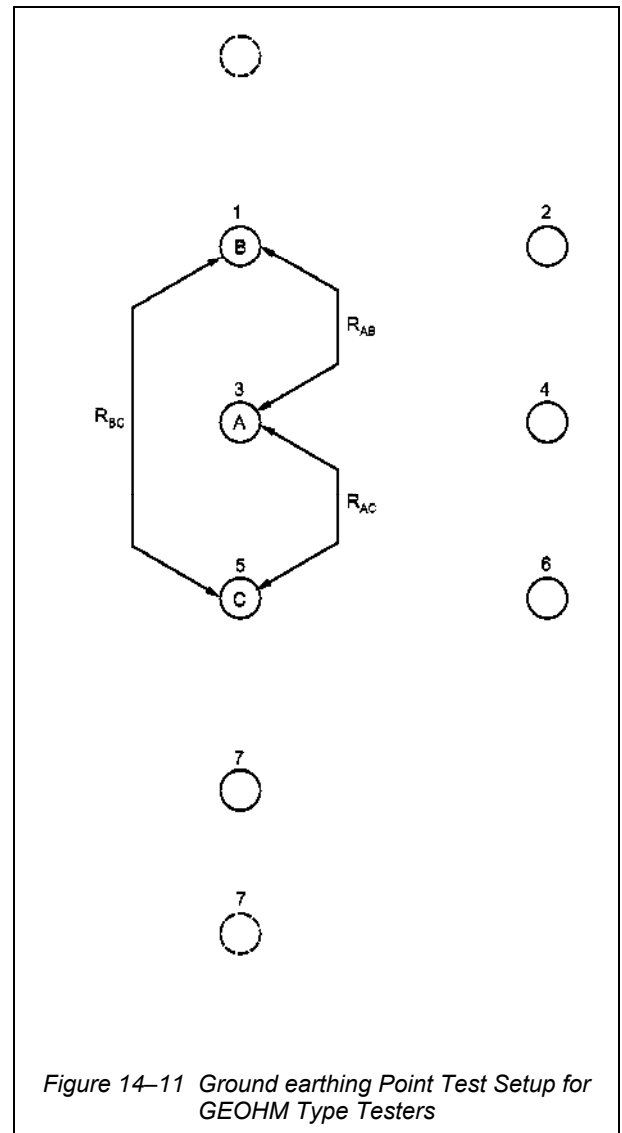

Figure 14-11 Ground earthing Point Test Setup for GEOHM Type Testers
- a. **Three Electrode Method.** This is the preferred method of measuring the earth resistance of an ground earthing point. Using three collinear electrodes, (ie three ground earthing points A, B and C as shown in Figure 14-11), measure the resistance between each in turn. The resistance of earth point A is calculated from: